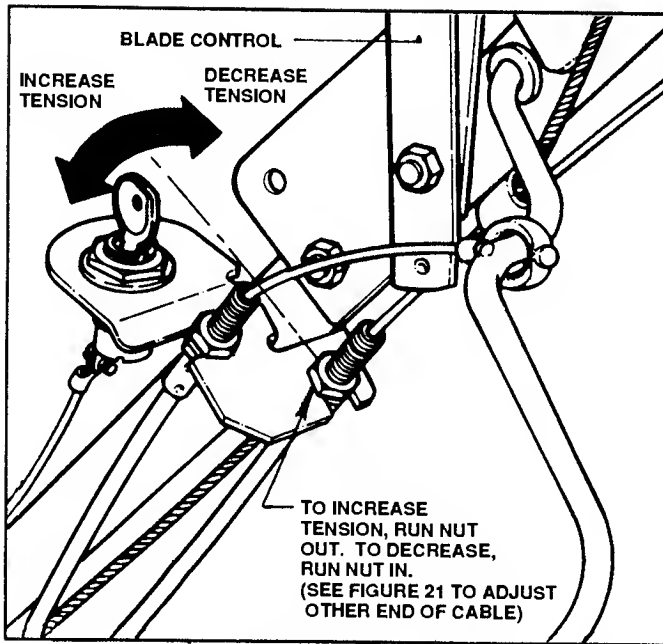

FIGURE 20
2. Measure length of the blade cable spring with the BLADE CONTROL in the "OFF" position, then measure again with the BLADE CONTROL in the "ON" position. The spring should stretch about 1/4" from "OFF" to "ON" position. Spring extension can be adjusted at either the fitting on the ignition switch plate or at fitting on the deck bracket. Shortening the fitting extension tightens the belt. When properly adjusted, the spring should stretch about 1/4" with BLADE CONTROL engaged and there should be slack in the cable with the BLADE CONTROL "OFF". **If there is no slack, the blade brake cannot engage.** Check the blade brake as described in Step 3. See Figures 20 & 21.